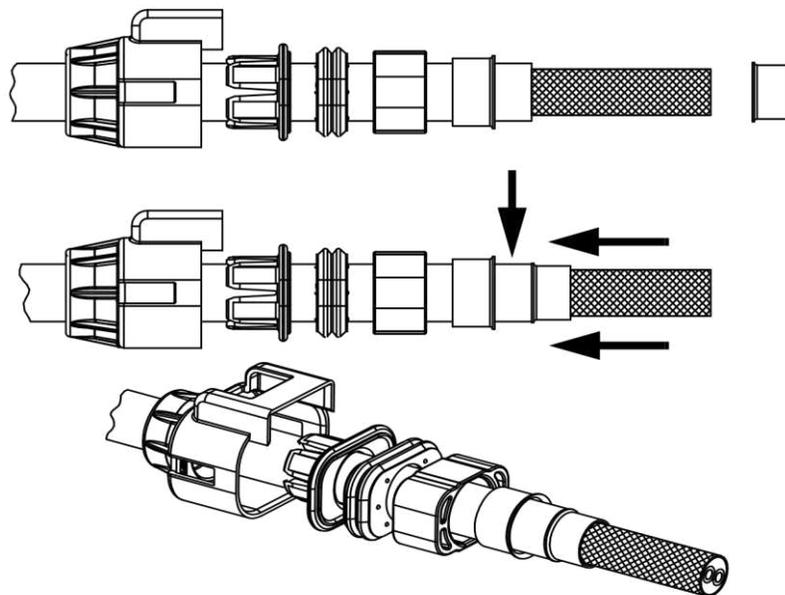

Figure 5
- 3.6.3. Insert the inner ferrule over the cable shield until it stops against the outer jacket as shown in Figure 5.